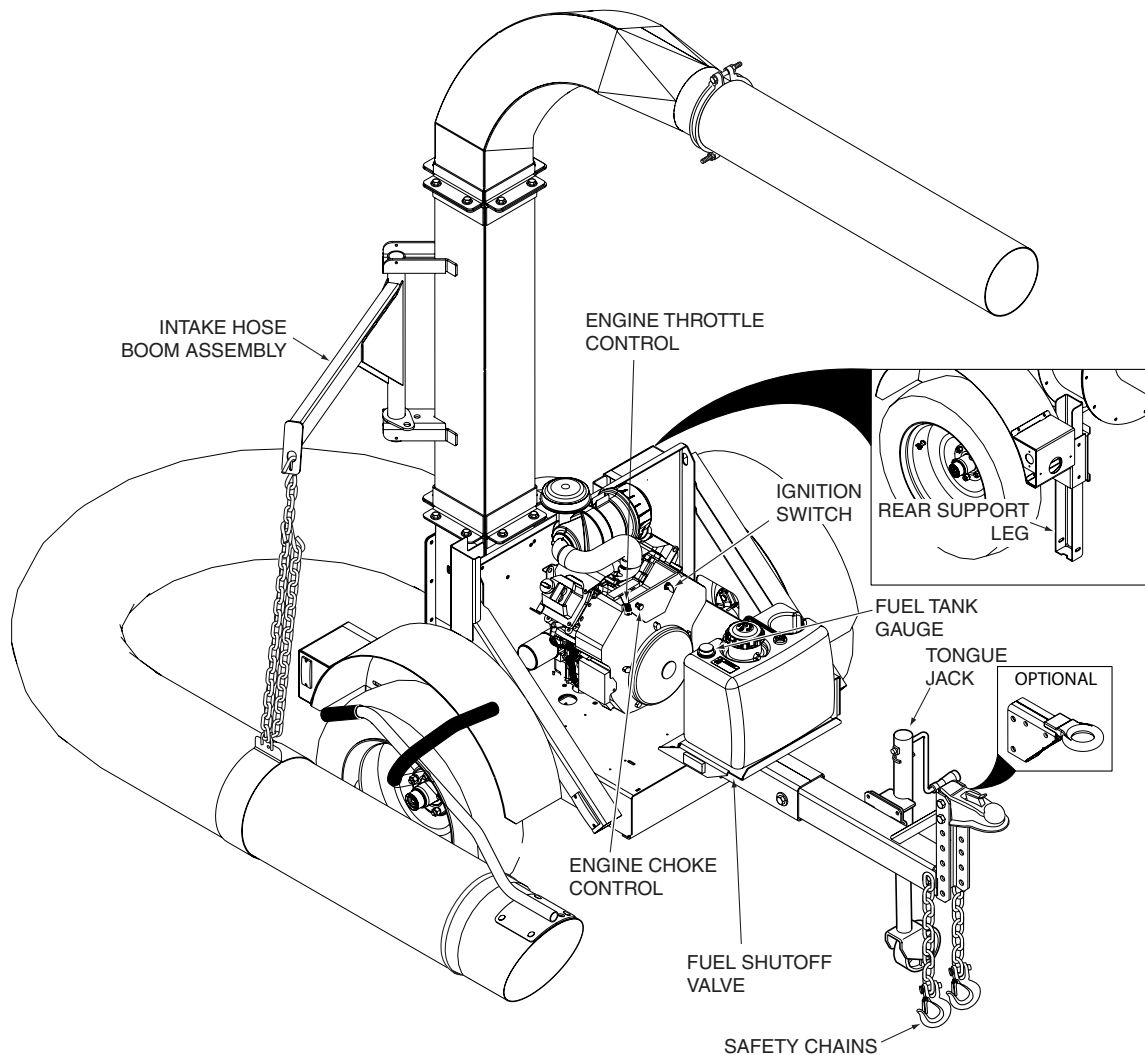

Figure 4-1. Controls and Instruments
1. **Ignition Switch (Figure 4-1).** The ignition switch is used to start the engine and has three positions; OFF, ON, and START.
2. **Engine Throttle Control (Figure 4-1).** Use to control the engine speed. Pushing the lever inboard increases engine speed. Pulling the lever outboard decreases engine speed. Full outboard position is the IDLE position. Full inboard is the operating position.
3. **Engine Choke Control (Figure 4-1).** Use to start a cold engine.
4. **Tongue Jack (Figure 4-1).** Use to raise and lower the ball hitch receiver or optional pintle hitch onto or off of the tow vehicle.
5. **Safety Chains (Figure 4-1).** Use to connect to the tow vehicles cradle draw bar in criss-cross fashion in case of an accidental disconnect.
6. **Rear Support Leg (Figure 4-1).** Use to support the Truck Loader when disconnected from the tow vehicle.
7. **Fuel Tank Gauge (Figure 4-1).** Indicates the amount of fuel in the fuel tank.
8. **Fuel Shutoff Valve (Figure 4-1).** Located under the fuel tank. Used to shut off fuel supply to the engine. Rotate the valve counter clockwise to supply fuel. Rotate the valve clockwise to shut off fuel supply.
9. **Intake Hose Boom Assembly (Figure 4-1).** Use to support the intake hose. The support chain can be raised or lowered until the intake nozzle floats 2-3 inches from the ground to help make operation easy and comfortable.
2. Be sure the fuel shutoff valve, located under the fuel tank, is completely open. See Figure 4-1.